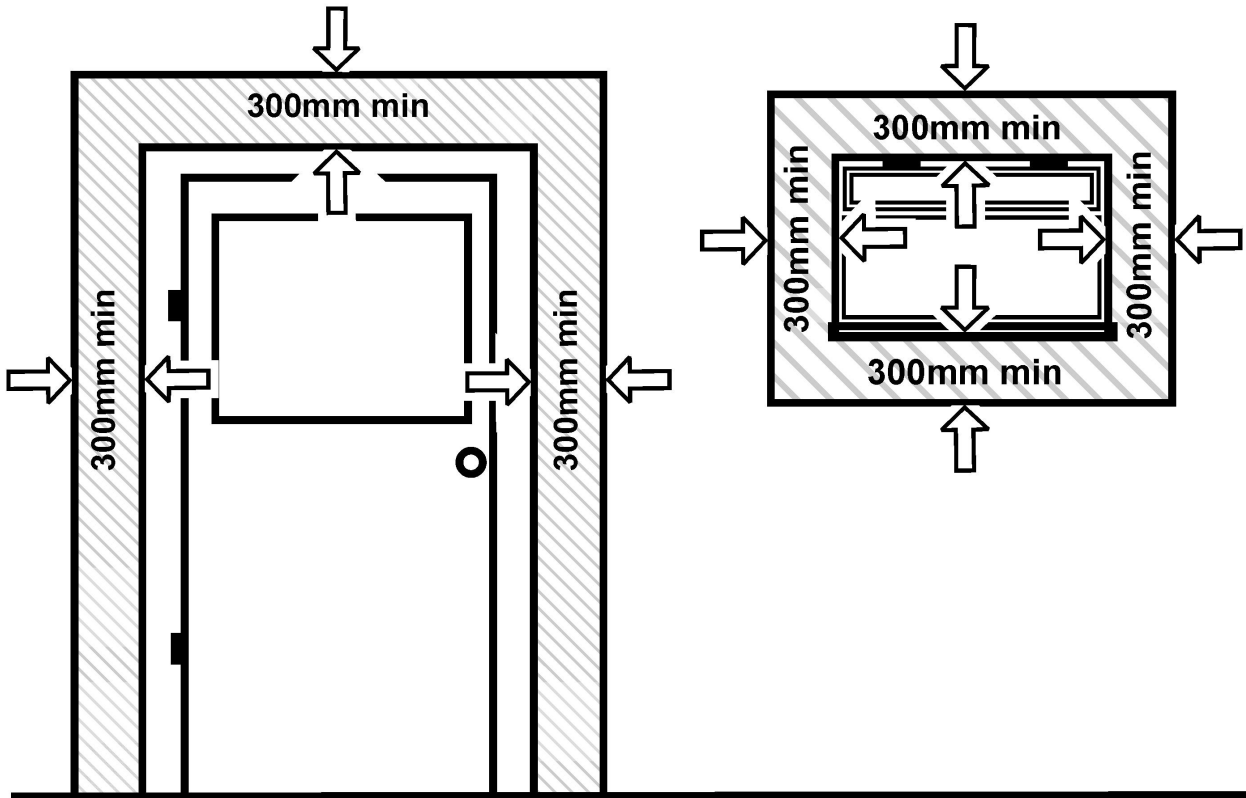

Figure 4b.
*In addition, the terminal should not be nearer than 300mm to an opening in the building fabric formed for the purpose of accommodating a built-in element such as a window frame or door frame (See figure 4b).